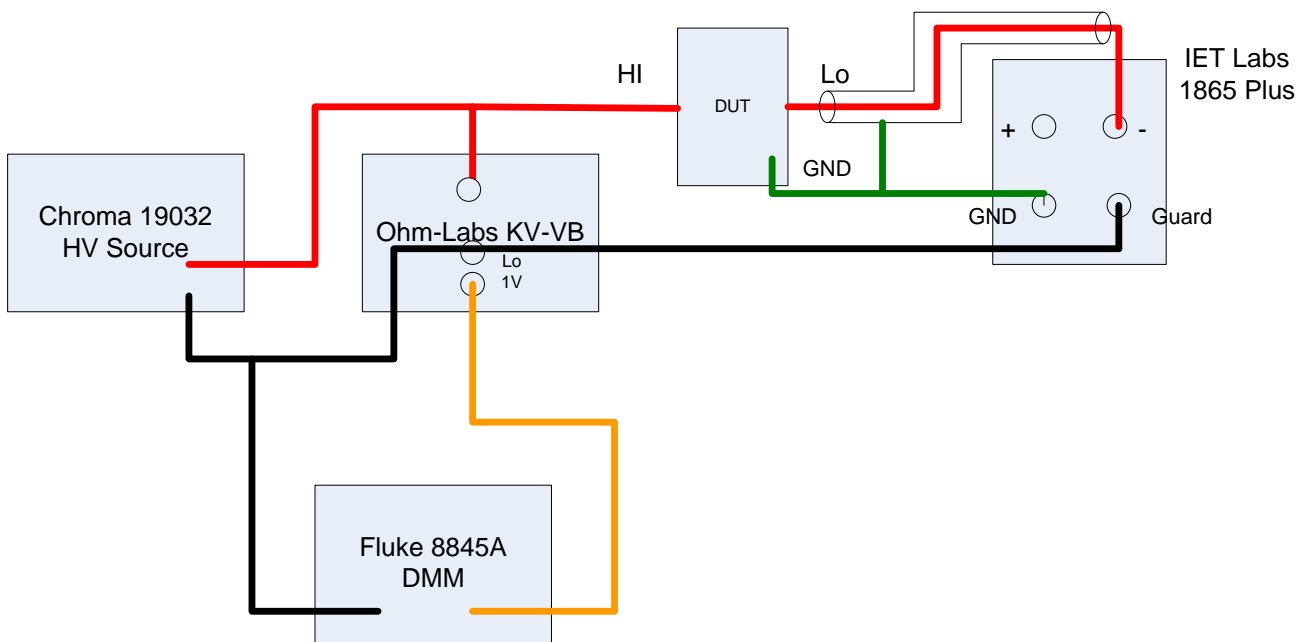

Figure 2: Simplified interconnection diagram
Figure 2 shows a basic block diagram and wiring diagram. All wiring was 10 kV silicon hook-up wire except for the connection between the low side of the DUT and the “-” terminal of the 1865 Plus which was RG-174U coaxial cable combined with two Pomona 4684 BNC (F) to single banana plug with ground lead.